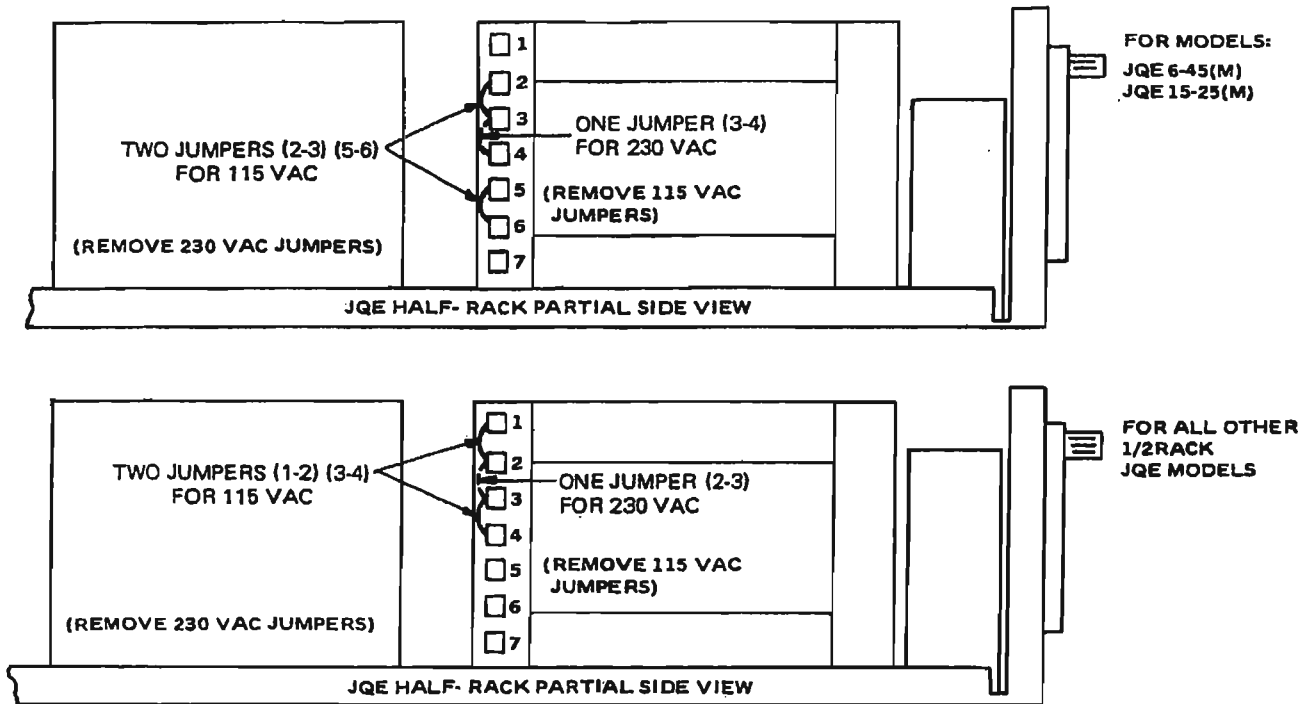

FIG. 2-2 CONVERSION TO 230V AC LINE OPERATION
- 2-5 This power supply is normally supplied for operation on a single phase, nominal 115V AC line. For conversion to 230V AC line operation, refer to FIG. 2-2. Remove the two wire jumpers between transformer terminals indicated. Re-connect one (1) jumper between terminals indicated. Do not change any other wiring on the transformer.